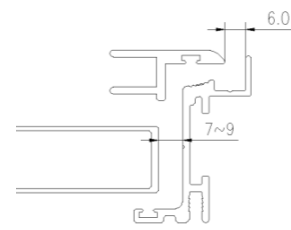

Fig. 5
5) Check inside the van for the gap between the door frame and the caravan frame. If necessary pack between the two to reinforce the join. (If the balance of the fixing is to be through the inner area of the frame, it is recommended to minimize the gap between the two frames to prevent distortion of the door frame and to ensure the door lock bolts engage when door is closed and the gap between the security door and the door frame is between 7 to 9. As shown in Fig. 5.